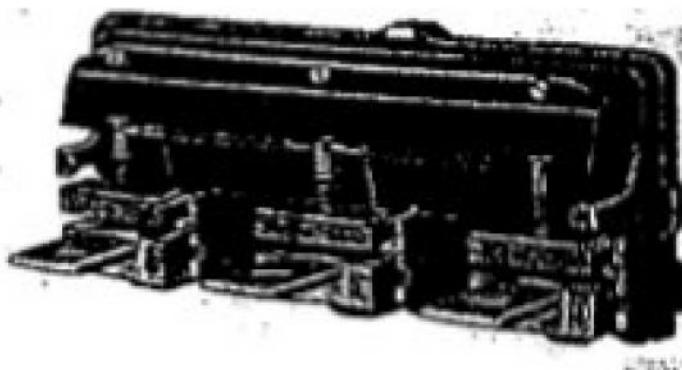

Figure 24. Arc quencher arrangement and a 250-volt a-c circuit breaker.
(5) Figure 24 shows the details of the 250-volt a-c arc quencher, used in the 225-ampere frame. The V-shaped conductor shown at the extreme left is insulated and arranged so that the power, flowing through the arc from the stationary arcing tip, must also pass up, around, and down through the center of the plates, through the stud, and out to the line.
(6) The magnetic field set up in the chamber draws the arc into the center where it rotates at high speed; the single arc is broken up by the plates into a series of short arcs. When the current passes through zero, the arc does not reestablish.
e. FIELD RHEOSTAT. (1) Construction. (a) The exciter field rheostat is a type WL unit. In the manufacture of these rheostats, a pressed-steel plate forms a light but durable rigid base. After the entire surface is sandblasted to remove foreign particles,